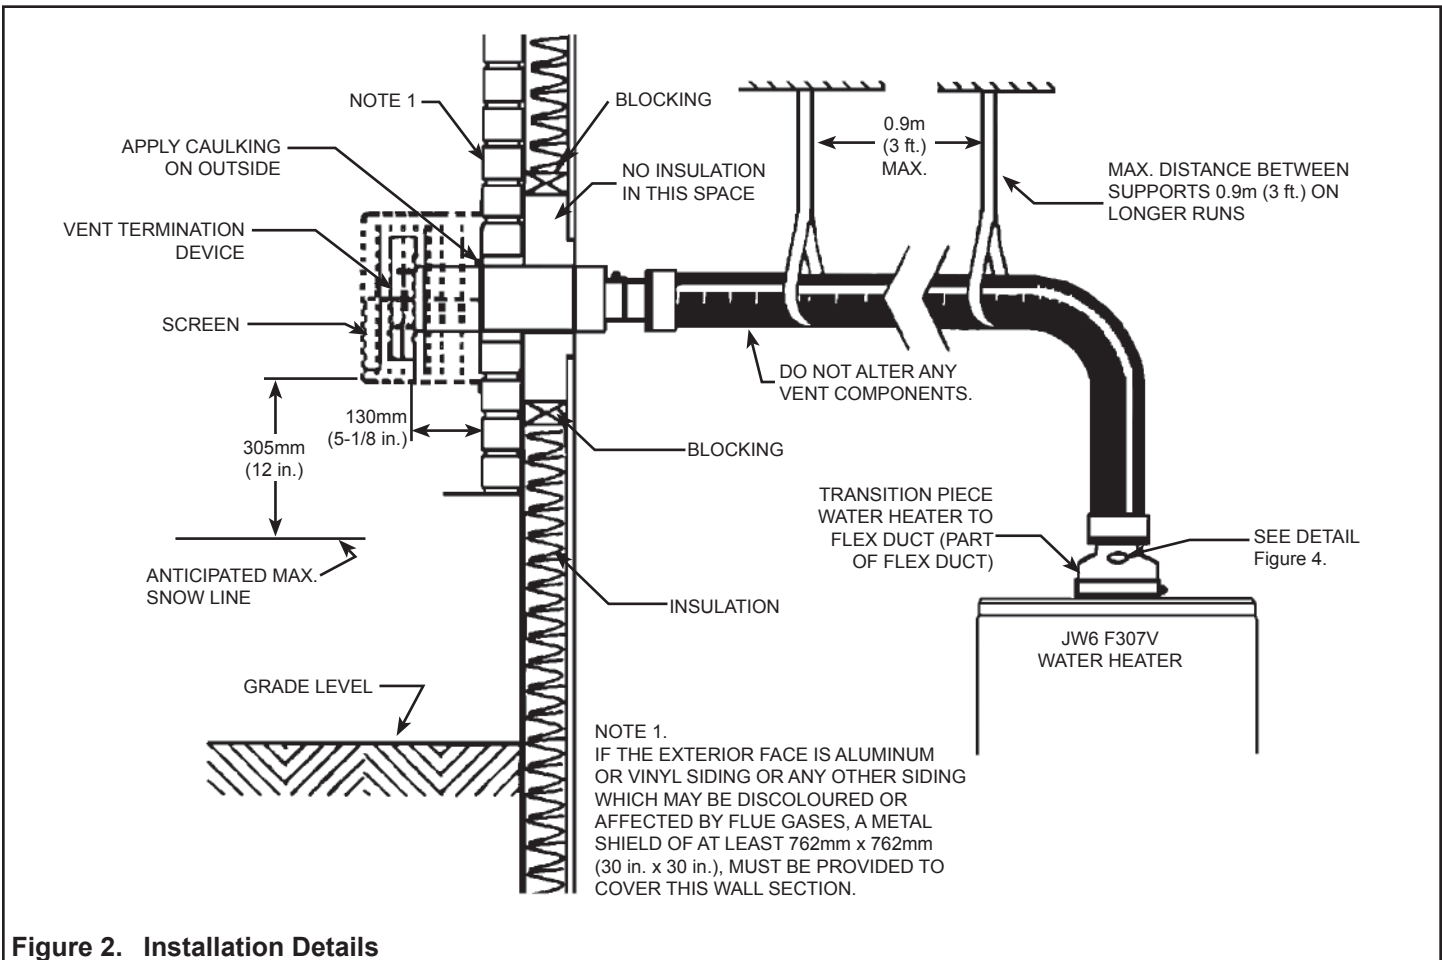

Figure 2. Installation Details
Locate the water heater as close as possible to an exterior wall to minimize the length of flex duct required. However, the minimum length available is 1.5m (5 ft.) and under no circumstances must any component be altered. Consider the direction of predominant winds and the possible snow accumulation against that side of the building (see Figure 2).
8. Support longer horizontal runs. Maximum spacing must not exceed 0.9m (3 ft.) (see Figure 2).